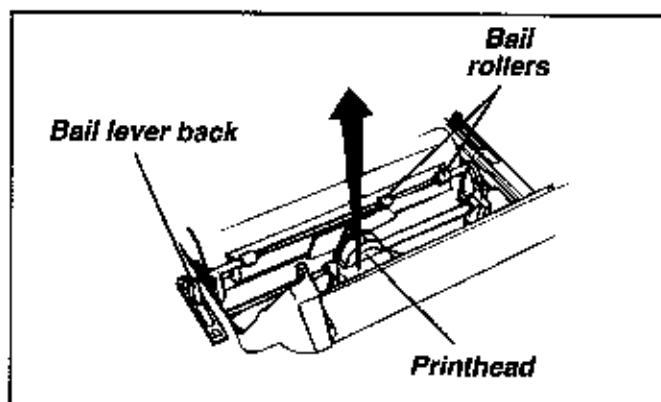

Figure 6-6
3. Push the print head to the center of the carriage so it is away from the bail rollers. Make sure the bail is closed (lever back - see Figure 6-6).